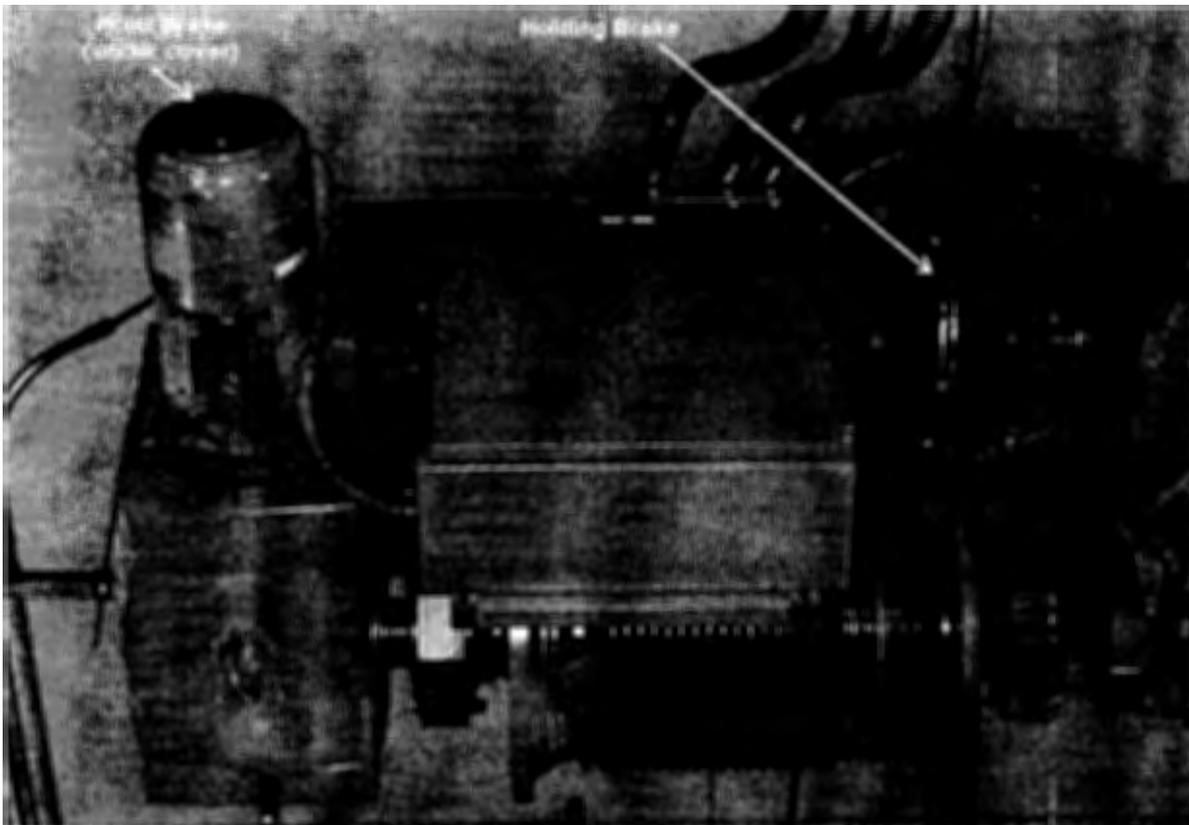

Figure 2
- [] 8.5.1 **REMOVE** Hoist Brake Motor cover (refer to Figure 2).